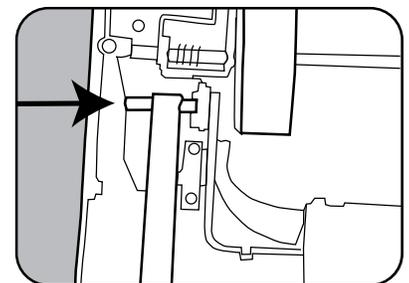

Fig. 4
4. Loop a new belt over the motor pulley (Fig. 4) and over the end of the brushroll.